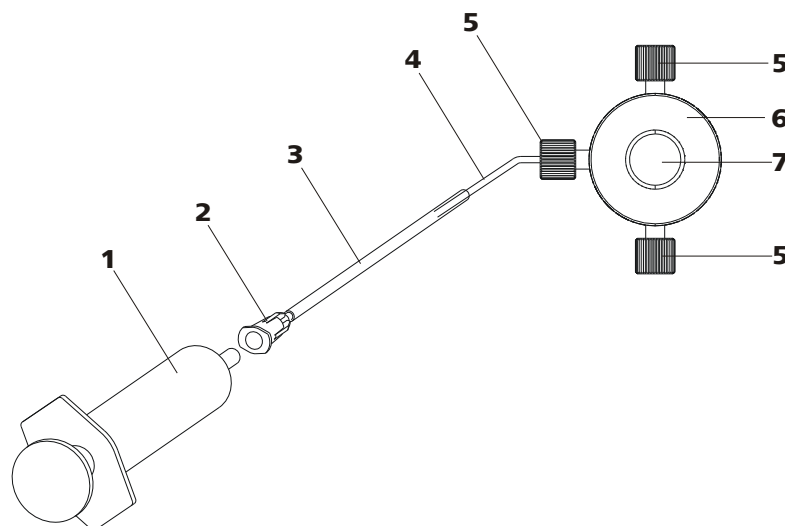

Figure 23 Deaerating the high pressure pump
Deaerate the high pressure pump as follows (see Figure 23, page 45):
- Insert syringe (23-1) in the Luer connector (23-2) of the purging needle (see Figure 23, page 45).